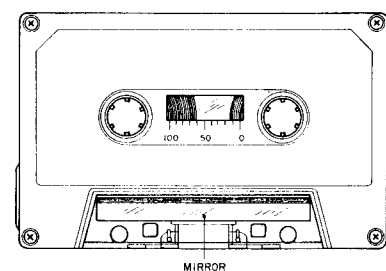

Fig. 12
- 1) When using an ordinary cassette, the tape guides and heads, etc. are not visible. As shown in Fig. 12 use a cassette tape from which part of the cassette case has been cut out and a mirror installed easy visibility of the head area when making tape guide height adjustment.